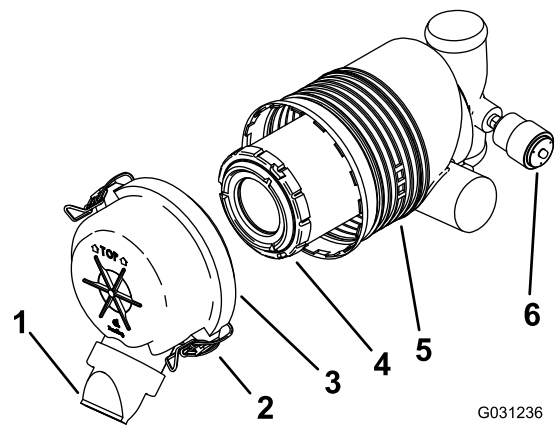

Figure 41
Important: Replace the air-cleaner filter only when the service indicator shows red (Figure 41). Changing the air filter before it is necessary only increases the chance of dirt entering the engine when you remove the filter.
5. Release the latches on the air cleaner and pull the air-cleaner cover off the air-cleaner body (Figure 41).
- If the service indicator is clear, install the air-cleaner cover with the dust cap oriented downward and secure the latches (Figure 41).
1. Gently slide the filter out of the air-cleaner body (Figure 41).
3. Carefully install the filter (Figure 41).
4. Install the air-cleaner cover with the dust cap oriented downward and secure the latches (Figure 41).